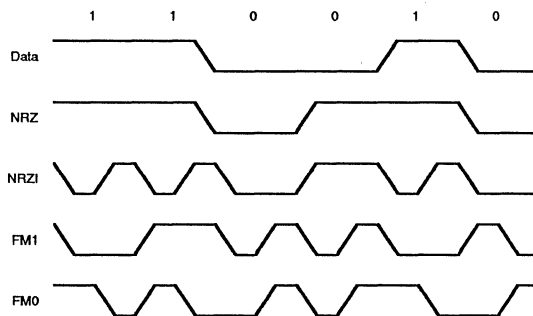

Figure 11. Data Encoding Methods
**Data Encoding.** The ESCC may be programmed to encode and decode the serial data in four different ways (Figure 11). In NRZ encoding, a 1 is represented by a High level and a 0 is represented by a Low level. In NRZI encoding, a 1 is represented by no change in level and a 0 is represented by a change in level. In FM1 (more properly, bi-phase mark), a transition occurs at the beginning of every bit cell. A 1 is represented by an additional transition at the center of the bit cell and a 0 is represented by no additional transition at the center of the bit cell. In FM0 (bi-phase space), a transition occurs at the beginning of every bit cell. A 0 is represented by an additional transition at the center of the bit cell, and a 1 is represented by no additional transition at the center of the bit cell. In addition to these four methods, the ESCC can be used to decode